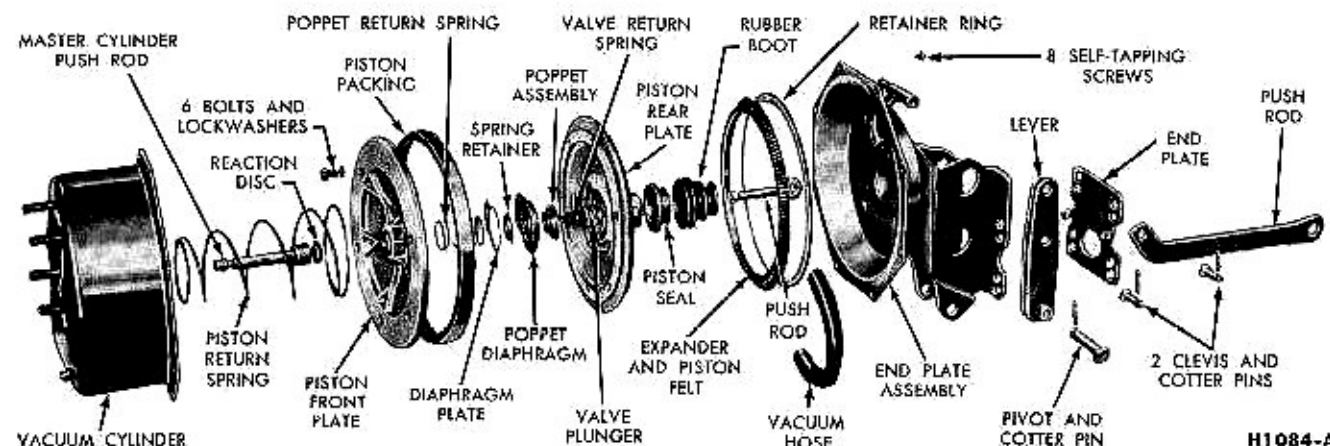

FIG. 9—Disassembled Power Brake Booster
A disassembled view of the power brake booster is shown in Figure 9.
2. Insert the valve rod through the hole in the rear piston plate from the side shown in Figure 9, and assemble the rubber guard over the end of the rod and over the shoulder on the piston plate.